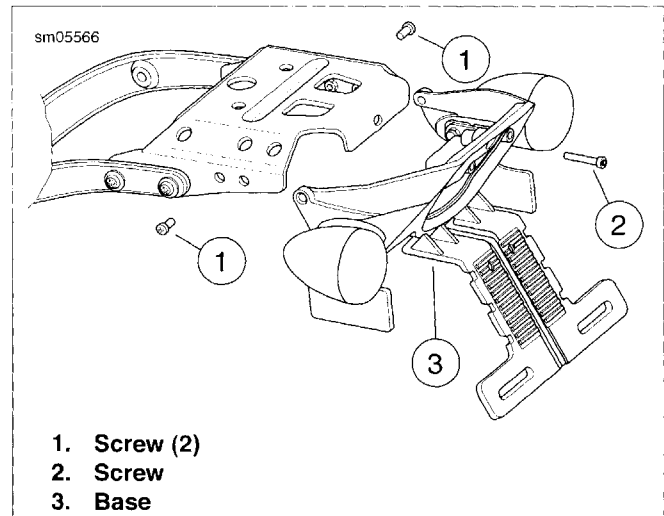

Figure 6-55. Tail Lamp Base: XR 1200 Only
6. **XR models only:** see Figure 6-55. Remove base as follows:
8. **XR models only:** see Figure 6-55. Install base as follows: